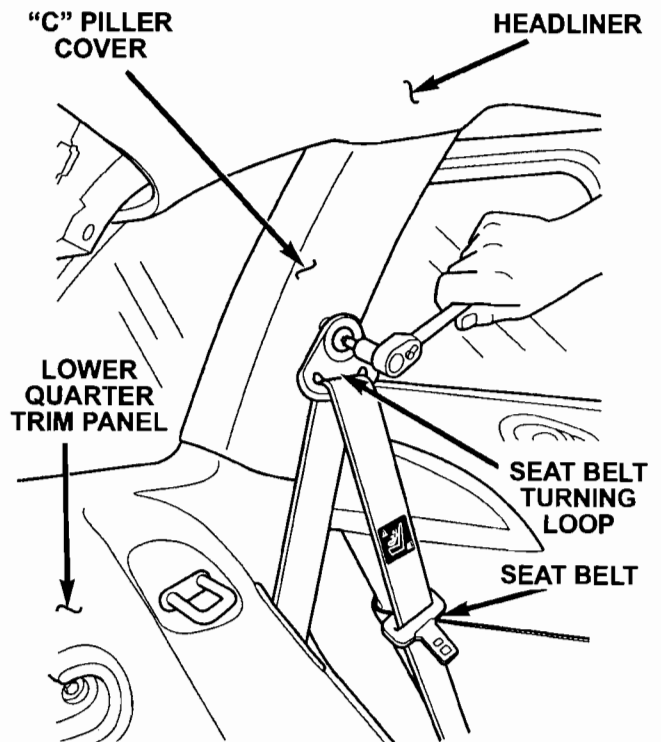

Figure 1 – Left Side Shown
5. Remove the right and left seatbelt turning loop bolts (Figure 1).
7. Remove the “C” pillar covers (Figure 1).